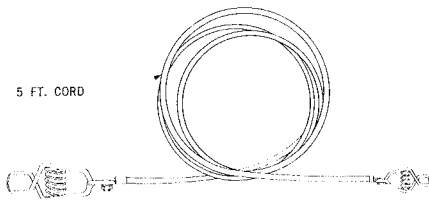

Fig. 4 — Z Temporary Bond
2.06 The Z Temporary Bond Fig. 4 is an insulated stranded copper wire 5 feet long equipped with a battery clip on each end.